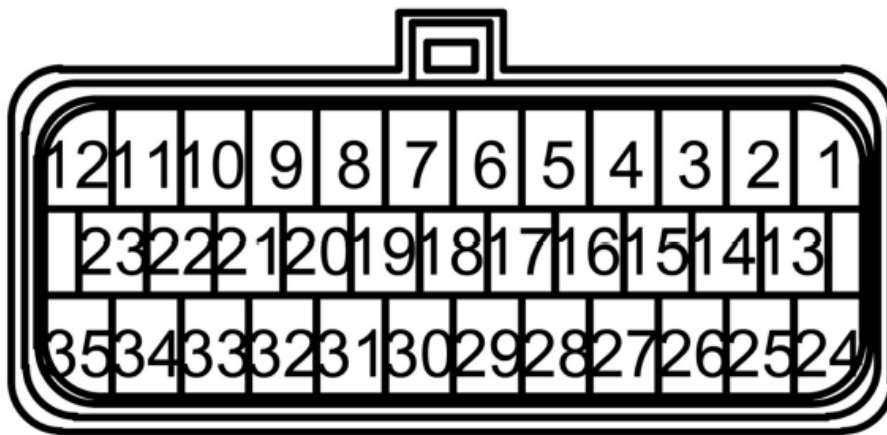

Figure 11: 776164 35pin connector
1. Connect the controller and the motor according to the standard wiring diagram (Figure 11). Please make sure there is no load on the motor shaft before starting the programming.